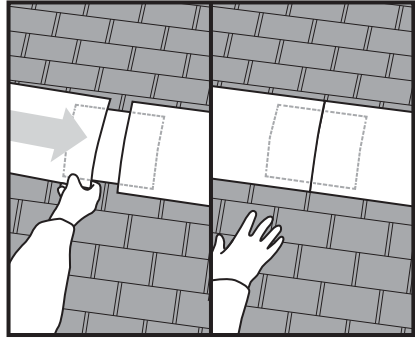

Fig. 5
2) Align the two vent pieces together without overlapping and then fasten by nailing each vent piece on both sides of the ridge to hold the vents in place. See Figure 5.